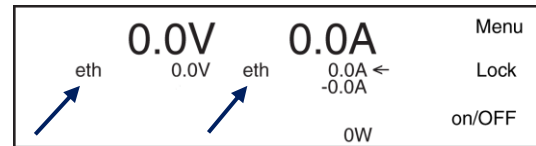

Figure 7.17: The programming source appears before the settings. In this example both CV and CC settings are controlled via Ethernet.
- Before the set values, the selected source is shown, see Figure 7.17. For example, 'eth', 'web', 'seq', 'slot1' etc.